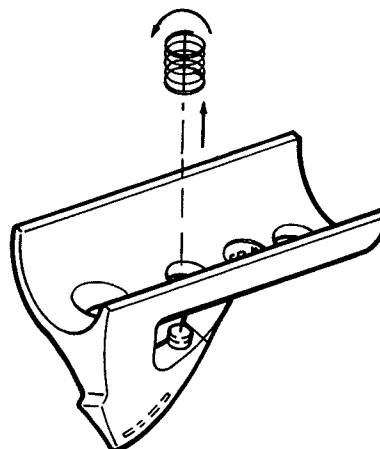

Figure 30. Flight Spring Removal
- I. Remove springs from auger flights by turning springs out. (See Fig. 30.)